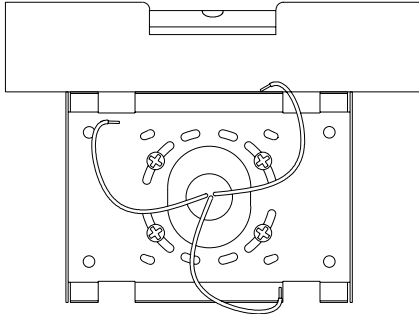

Figure 5
5. Level mounting plate to wall using a spirit level. See Figure 5.